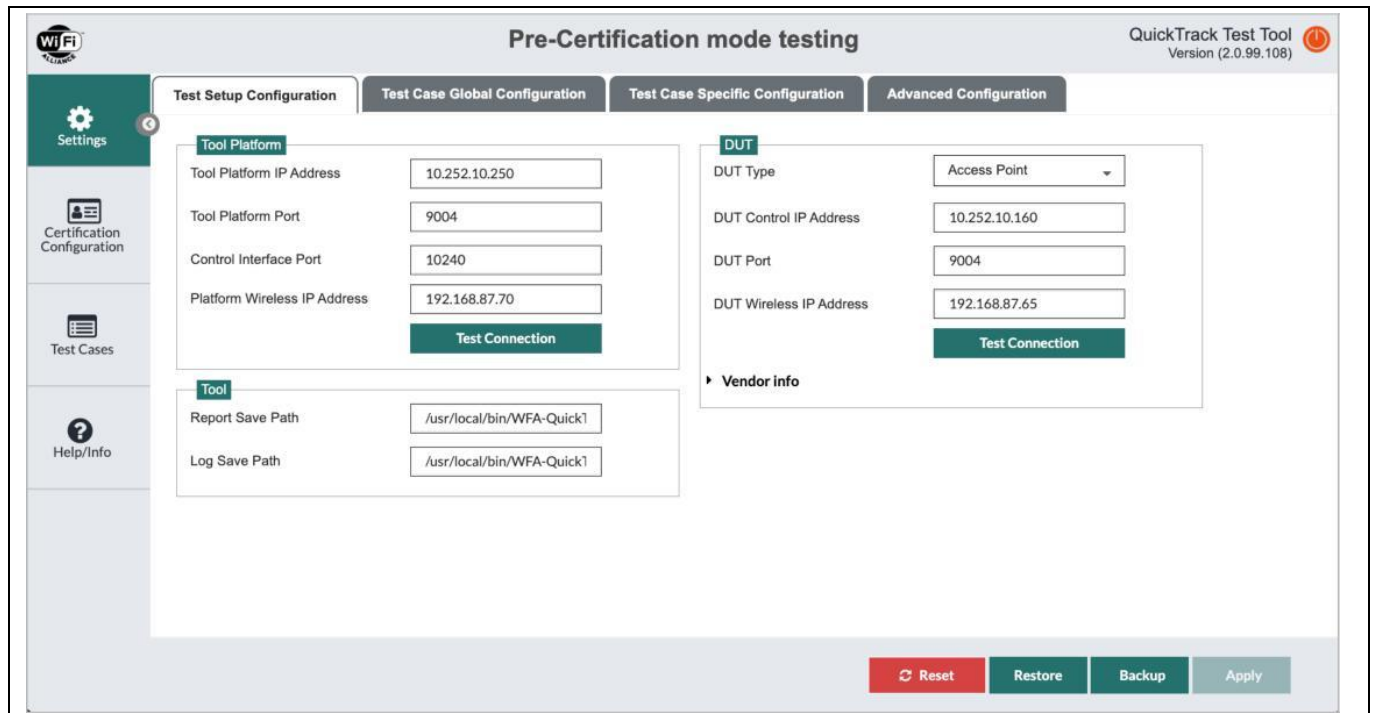

Figure 8 Test Setup Configuration
The Test Setup Configuration is shown in Figure 8. It is recommended to scroll through each entry and note system settings. Information for adjusting any of these settings is provided below.
- Enter the Ethernet IP address, port, and wireless IP address of the Quick Track test tool platform as shown in Figure 8.